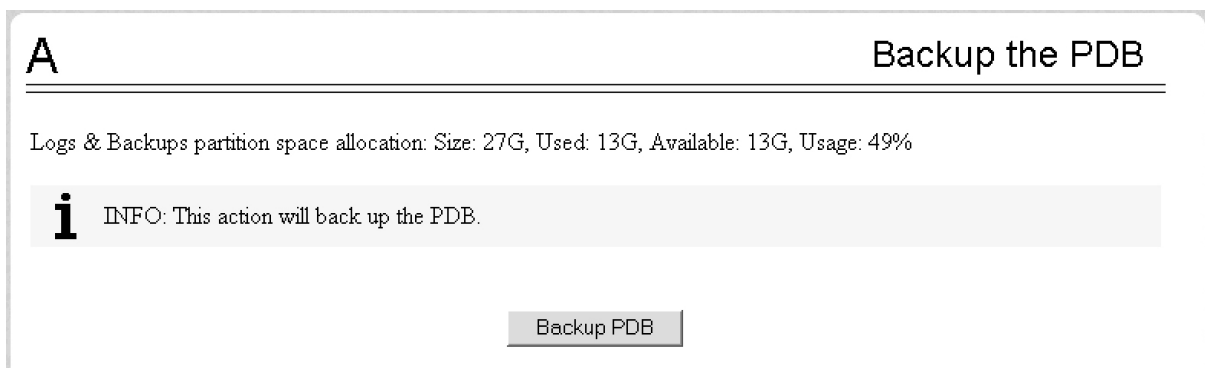

Figure 16: Backup the PDB
4. In the **Backup the PDB** screen shown in Figure 16: Backup the PDB, click **Backup PDB**.